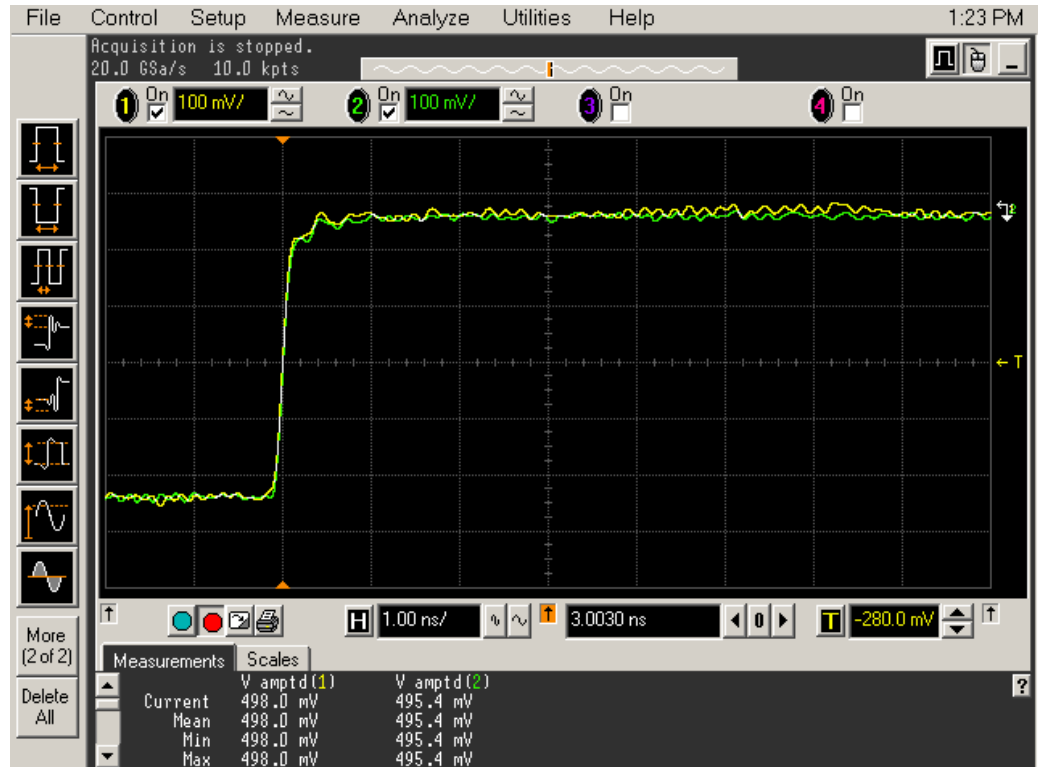

Figure 25 Calibration Probe Waveform Example
- 23 In the Acquisition Setup dialog box enable averaging. When you close the dialog box, you should see waveforms similar to that in Figure 25.